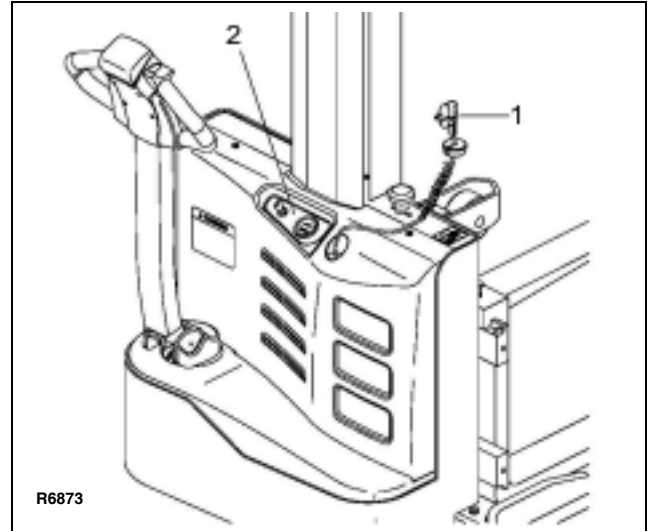

Figure 3-1 Battery Charging
3. Pull the charger cord out of the cover (1, Figure 3-1) and connect to the appropriate power supply,
4. The LED (2) flashes red to indicate that the charger is connected.
5. Charge the batteries until the LED (2) produces a permanent green light.